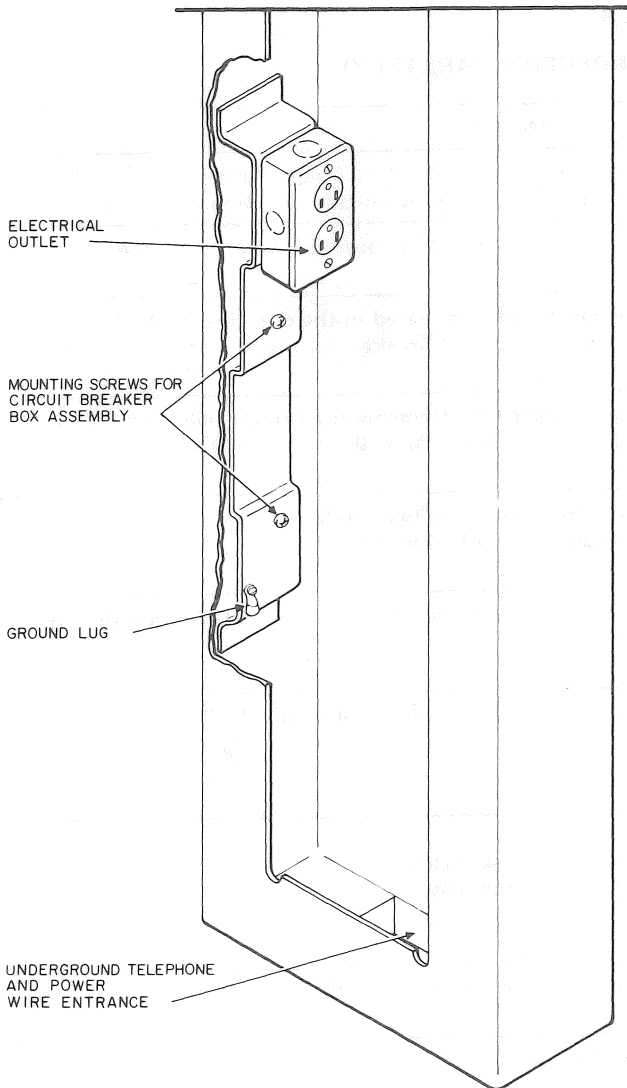

Fig. 14—Outlet for Terminating Electrical Service and Optional KS-19426, List 17 Circuit Breaker Box Mounting Location
2.34 Mounting space (posts only), is provided below the electrical outlet to install an optional KS-19426, List 17 service entrance box (Fig. 14). A circuit breaker Heinemann catalog no. 91-106-1 must be ordered separately.